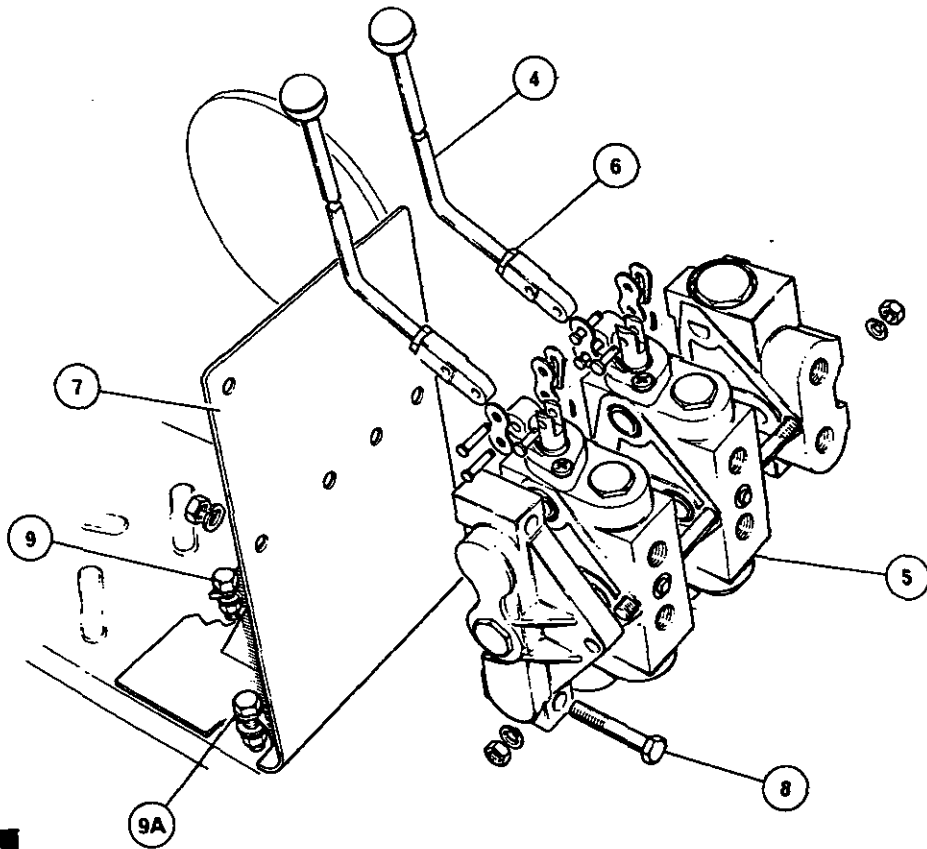

FIG. 2
1. Fig. 2. Thoroughly degrease the threads on the operating levers and the cranks, then apply two drops of Loctite Grade AV 'Stud Lock' (Red) to the threads before assembly. Screw the operating lever(s) (4) into the crank(s) on the spool assembly (5).